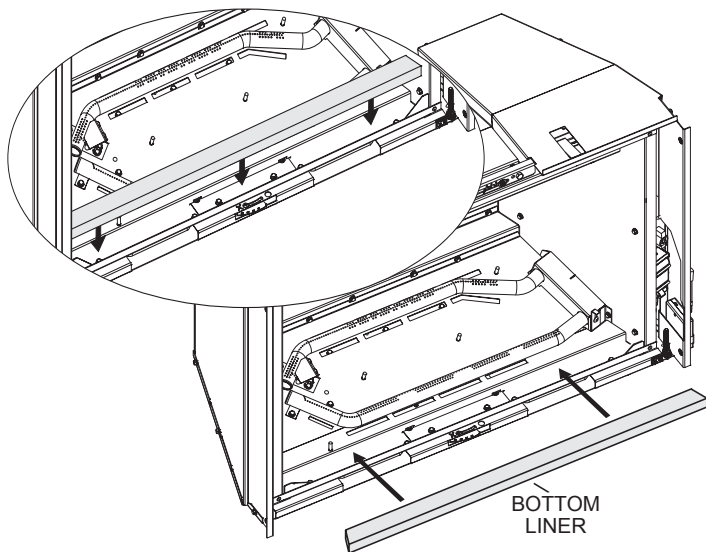

**Figure 1**
2. Loosen screws indicated. **See Figure 1.**